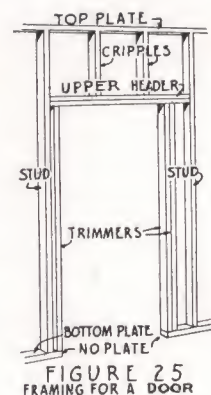

FIGURE 25
- (f) The door openings are framed out like the window openings except that no lower headers or lower cripples are needed (see Fig. 25).
- (d) See Figure 25 for illustrations of door framings. Build the door openings by setting the header on the trimmers and nailing into place. Nail through the header into the top ends of the trimmers and nail through the studs into the ends of the headers. Put on the upper header and nail it into the header and also nail through the studs into this header. Then put in the cripples over the opening. Nail through top plate into the upper ends of the cripples and toe-nail the cripples into the headers below.